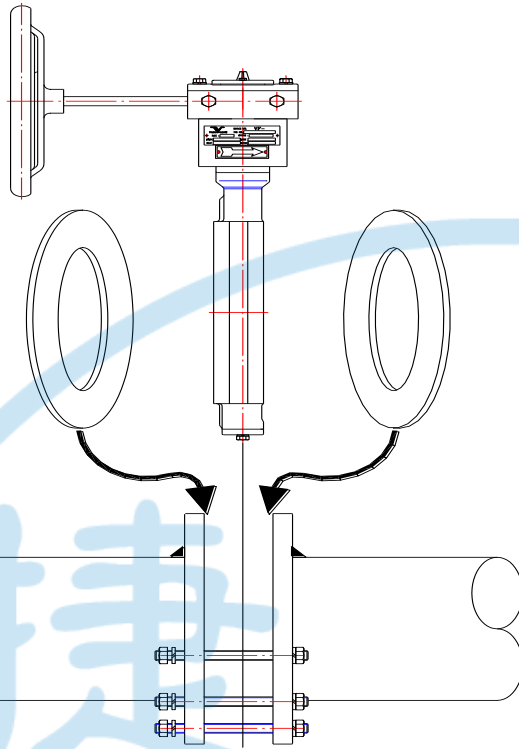

Fig.5
- 7.5. Install valve and gaskets into pipeline as (Fig.5).